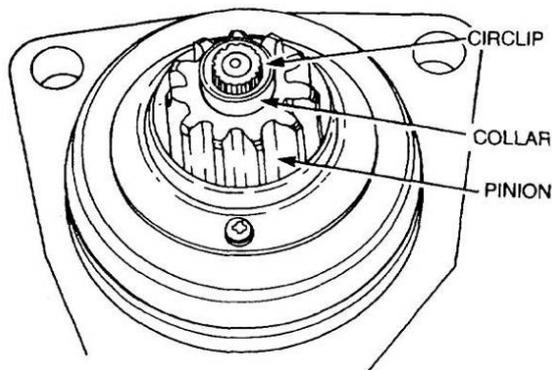

Figure 303 Removal of the Pinion Gear
- i.** Apply pressure on the pinion retaining collar and remove the circlip (Figure 303). Remove the collar, pinion and spring.